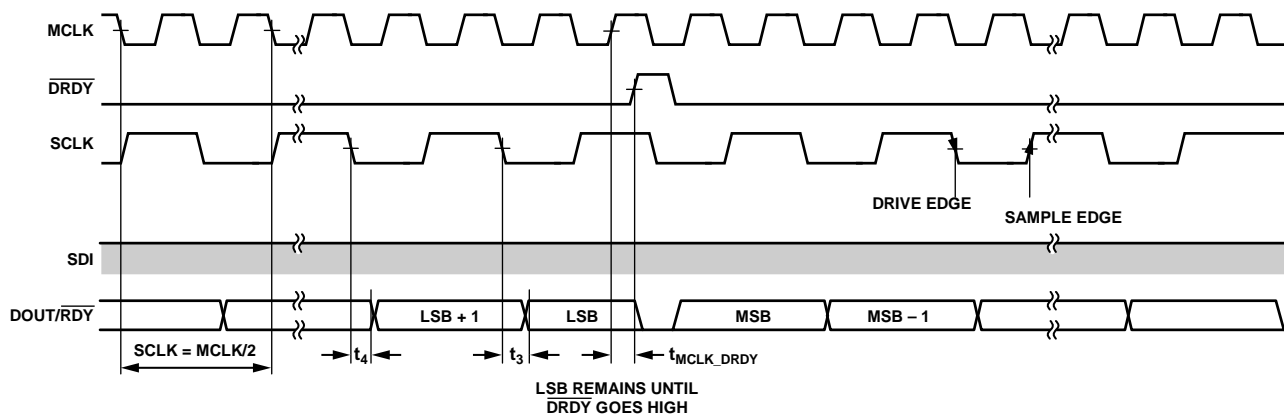

Figure 95. Recommended Interface for Reading Conversions, SPI Control, Continuous Readback Mode
The AD7768-1 interface is flexible to allow the many modes of operation and for data output formats to work across different DSPs and microcontroller units (MCUs). To achieve maximum performance, the recommended interface configuration for reading conversion results is shown in Figure 95. This recommended implementation uses a synchronous SCLK to MCLK relationship.
Figure 95 shows how the recommended interface operates. The data read back spans the entire length of the  $\overline{\text{DRDY}}$  period and the LSB remains until  $\overline{\text{DRDY}}$  goes high for the next conversion.
2. Generate SCLK based on the  $\overline{\text{DRDY}}$  or  $\overline{\text{RDY}}$  timing. SCLK is high when the  $\overline{\text{DRDY}}$  signal goes high and transitions on the MCLK falling edges (see Figure 95) to ensure that the LSB can be read correctly as the DOUT/RDY output is reset on the  $\overline{\text{DRDY}}$  rising edge. However, SCLK rising occurs before this transition.
Because the full ODR period is for clocking data, the  $\overline{\text{RDY}}$  signal no longer flags after each LSB outputs. This signal only flags if the AD7768-1 is in continuous readback mode, or if the AD7768-1 does not count 32 SCLKs within  $1 \times t_{\text{MCLK}}$  before  $\overline{\text{DRDY}}$ , as is shown in Figure 95.